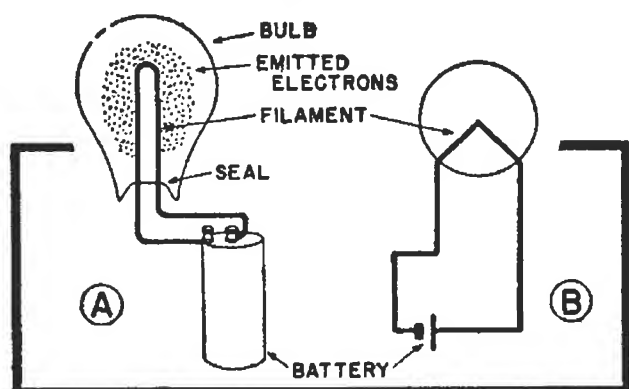

FIG. 1. When the filament is heated, electrons are emitted. Notice the symbols at B for the tube filament and for the battery.
Suppose we start with a tube consisting of a filament, made of thin resistance wire, enclosed in a glass or metal bulb from which all the air has been pumped. If we connect a battery to this filament (Fig. 1), the current
► It is important to realize that the current from the battery in Fig. 1 just *heats* the filament. The electrons emitted by the filament *do not come from this battery current*—they come from the atoms of the filament wire itself. We could heat the filament by a gas flame, or any other heating agent, and get the same electron emission for the same amount of heat. An electric current is generally used to heat the filament because this is the most convenient way to do it.